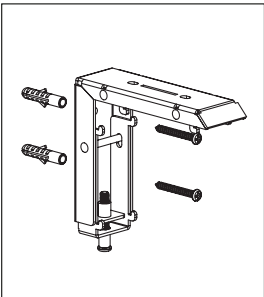

Fig. 4
- 2. Mounting on concrete structures:** Mark the hole positions on your wall using the brackets and drill holes that match the enclosed dowels. The dowels must fit tightly into the holes. If the dowels fit loosely into the holes, the holes have been drilled too large and larger dowels and screws must be used or new holes must be drilled. Insert the dowels completely into the holes and screw the brackets tight with the screws provided, as shown in Figs. 4 and 5.